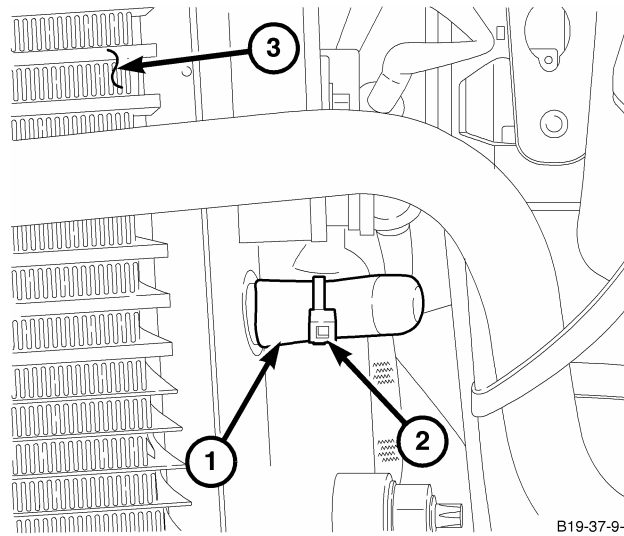

Figure 6- Boot Cover
19. Install the black protective boots on the old inlet and outlet ports of the power steering cooler and secure them with zip ties as shown in (Fig.6).